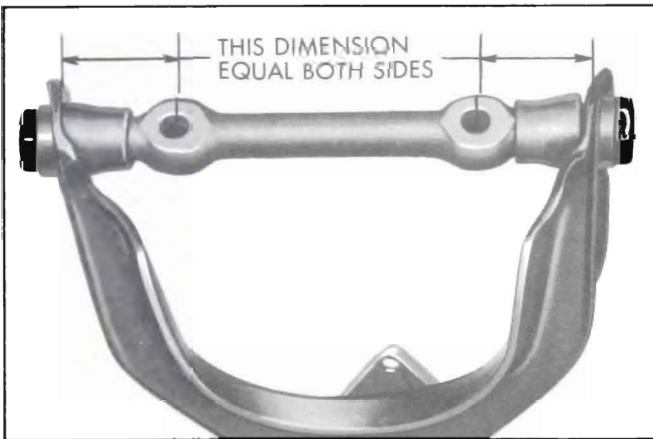

Figure 7-13—Upper Control Arm Shaft Position
6. Rotate shaft to make distance between shaft bolt holes and arm equal both sides as nearly as possible. See Figure 7-13.